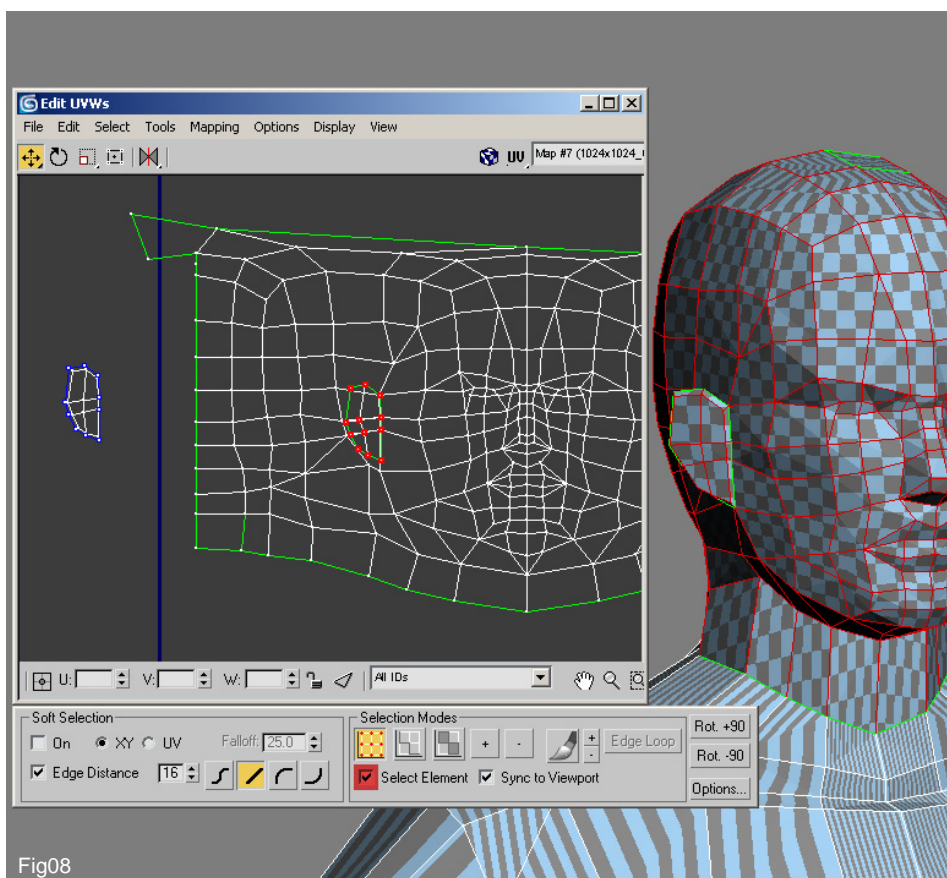

Fig08
8. As you map your model use the checker pattern in the viewports to try and keep the squares a similar size by scaling the gizmo, so our texture will have a consistent resolution. We will actually break this rule later on but for now just unwrap everything to a similar size. If you map some geometry and forget to move it outside the template boundary you may find when you unwrap it along with further poly's later on there will be some overlapping as we have mentioned. In Fig 08 we can see an example of this. We see the previously mapped outer faces of the ear already outside the template but when the inner ones were mapped they were not moved. When the entire